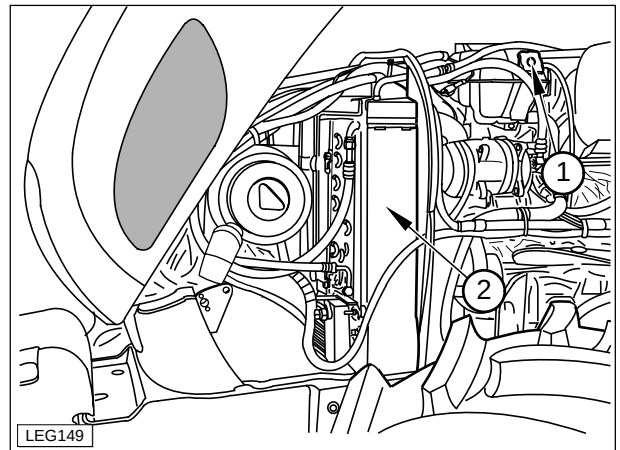

Fig.5-13
Check cooling fluid level daily and top up, if necessary, through the radiator cap (1 - Fig. 5-13).
2. Fit the filler cap back on (1 - Fig. 5-13).
5. Carefully remove the filler cap (1 - Fig. 5-13) and add fluid until the radiator is full, then fit the filler cap back on.
1. Completely drain all coolant from the radiator while the engine is not running but still warm, remove the filler cap (1 - Fig. 5-13), then open the radiator drain plug and the cylinder block drain plug .